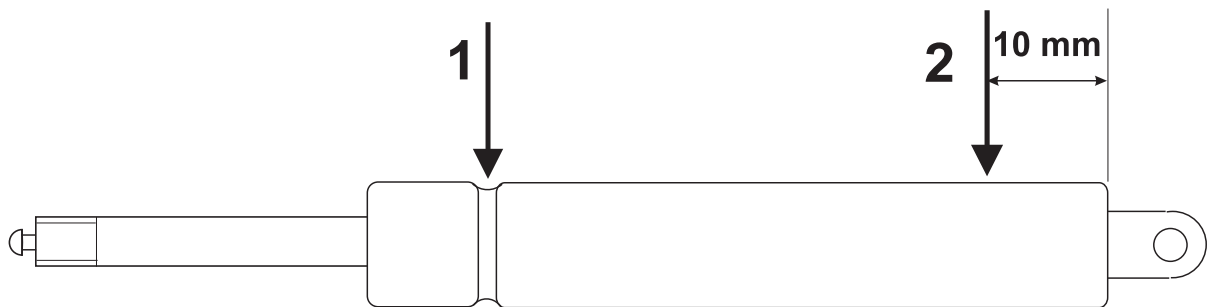

Fig. B-1 Disposal of gas spring
2. Clamp the gas spring in a vice and drill a hole approximately 3mm diameter at Position 1 as shown in Fig. B-1. Screen off the drilling point as metal chips and oil may be ejected due to the high internal pressure. Then drill a second hole at Position 2 as shown. Both holes should be drilled to a depth of approximately 10mm.